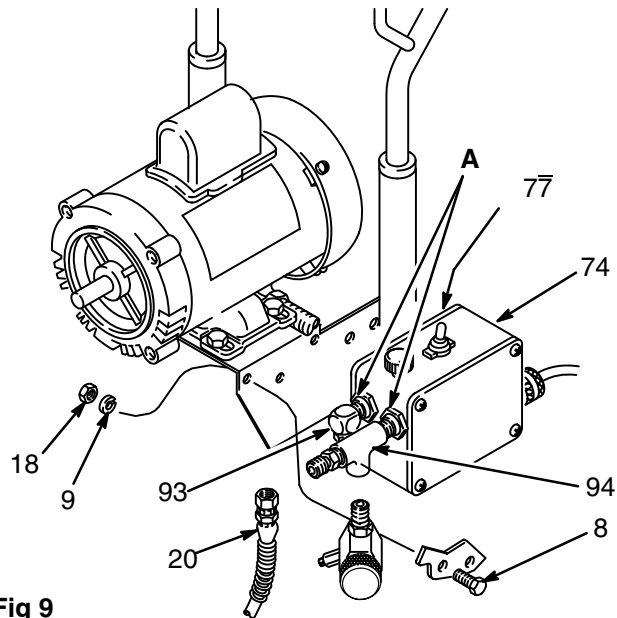

Fig 9
2. Disconnect the hose (20). See Fig 9.
4. Remove the mounting screws (8). See Fig 9.
6. Remove the mounting bracket (77). Remove the fittings (93,94). Install these parts on the new pressure control. See Fig 9.